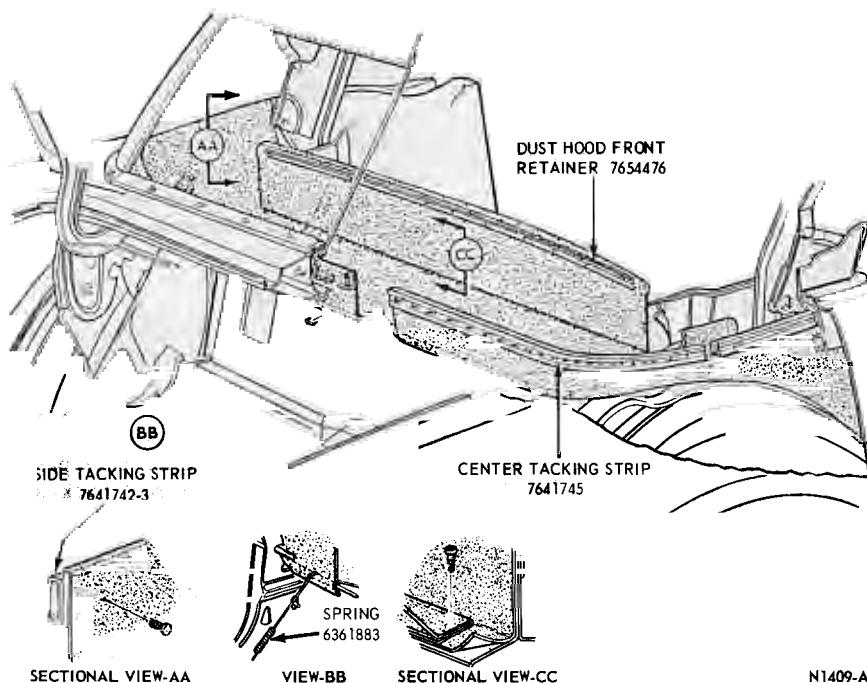

FIG. 9—Back Curtain Installation—Mustang
4. Remove 5 screws attaching the top compartment trim to the rear seat and remove the compartment trim tension springs (Fig. 9).
7. Remove 3 screws retaining the top compartment trim to the belt front side tacking strip on each side. Remove 5 screws retaining the compartment trim to the seat back (Fig. 9). Remove the top compartment trim tension springs.